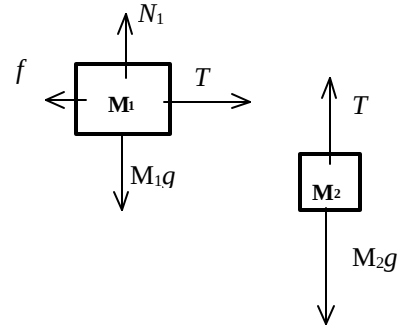

Figure 7: Block and pulley system
Another experimental arrangement for measuring the coefficients of friction is shown in Figure 7. Here the inclined plane is lowered to a horizontal position and force is applied to the block by a hanging mass connected to the block via a pulley. The force diagram shows the forces on both the block and the hanging mass. Because the Tension, T , transmitted by
2. Place the board in a horizontal position on the laboratory table with pulley beyond the edge of the table as shown in Figure 7. Place the block on the board using the same surface as you used previously.